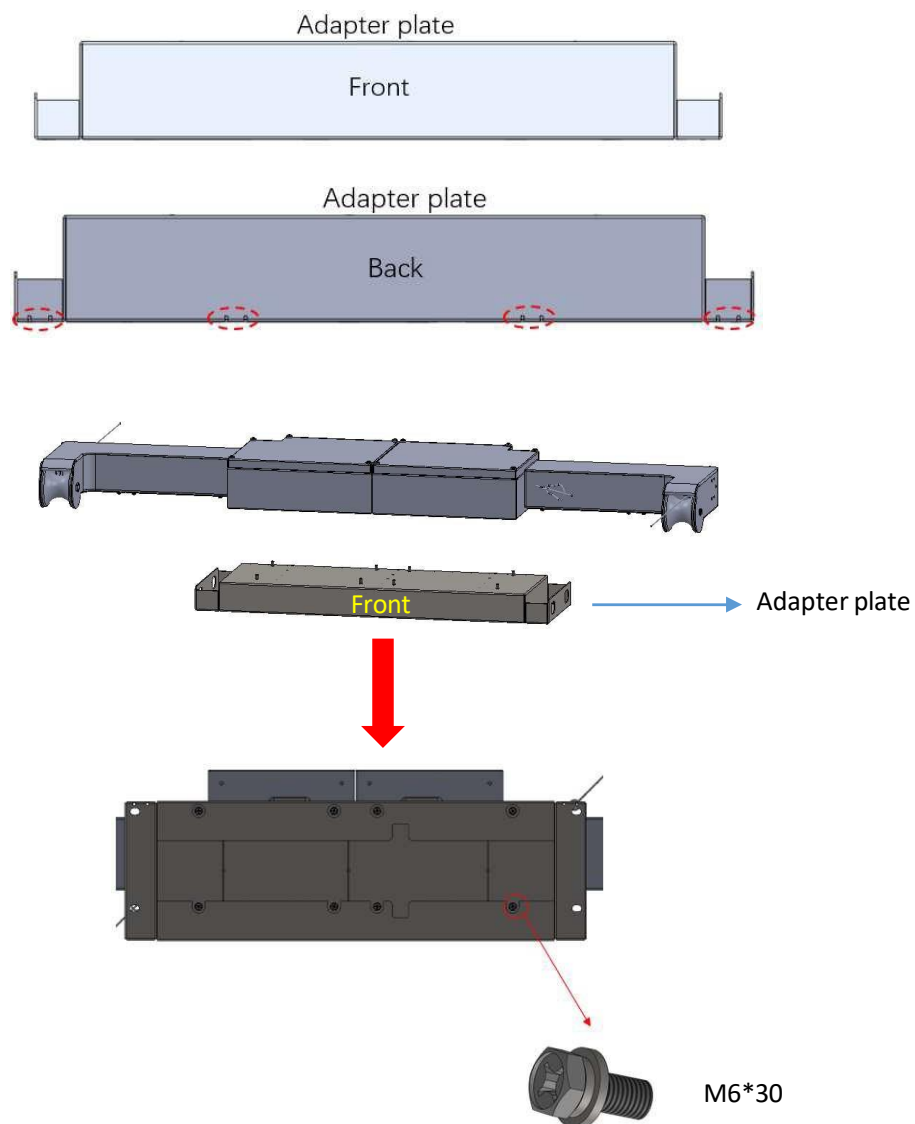

Figure 21 Installing the CMS on the adapter plate
(13) Install the CMS (Charging cable management) on the adapter plate, and fasten the CMS with the screws on the back of the adapter plate, and make the front of the adapter plate face forward as shown in Figure 21.